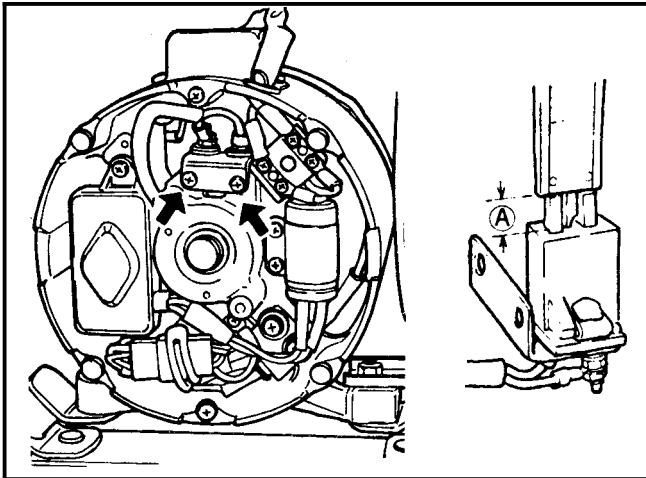

Figure 139
4. Use a caliper or other measuring device to determine the length of the brushes. See Figure 139.